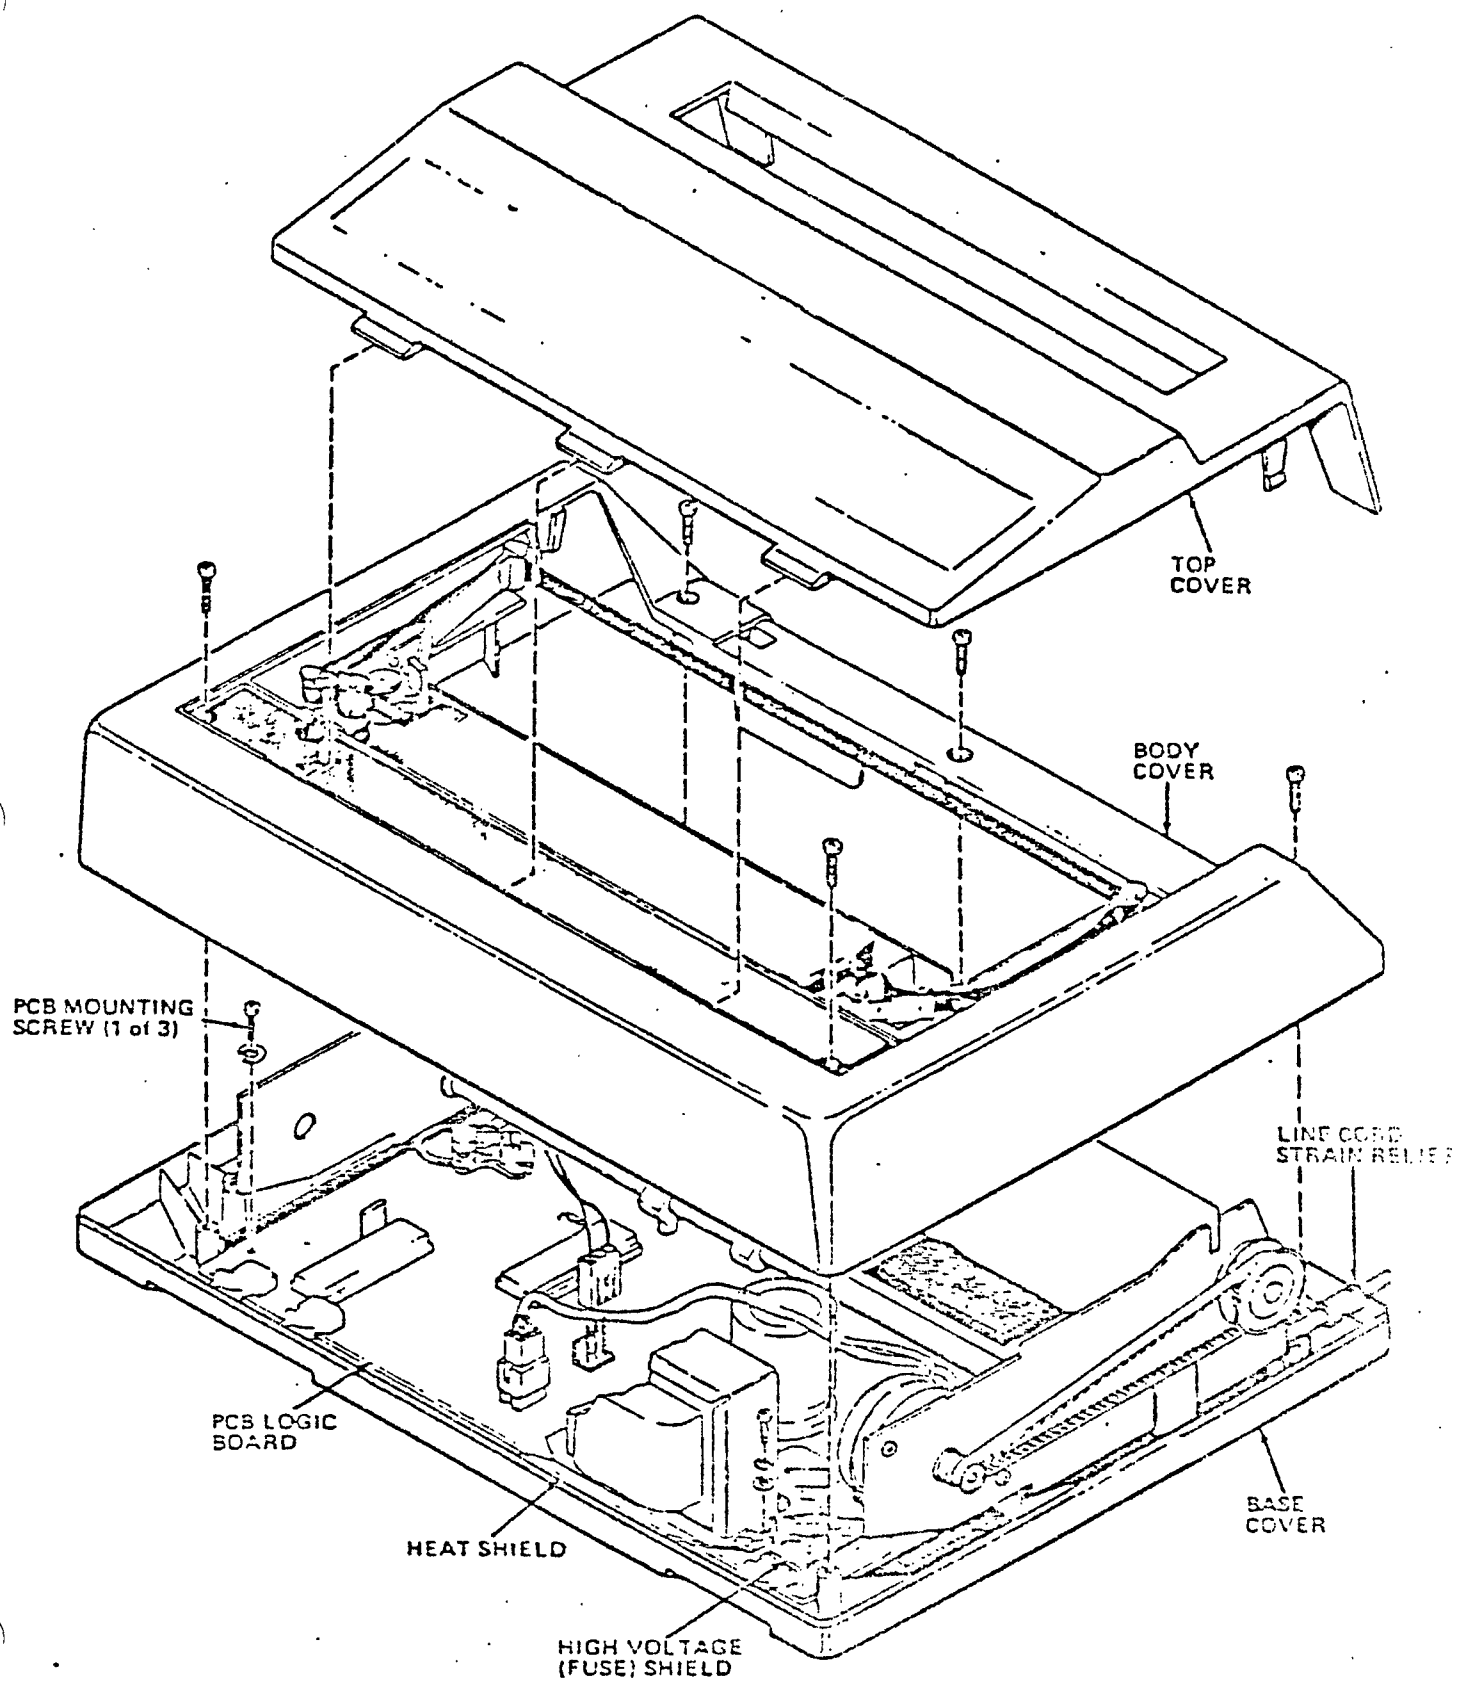

Figure 5-2. PCB LOGIC BOARD REPLACEMENT
5.3 PCB LOGIC BOARD (Reference Figure 5-2).